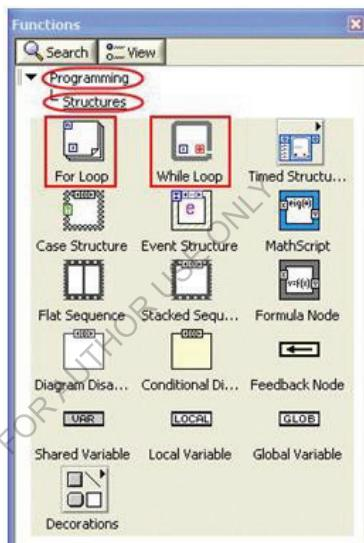

Figure 2.109: Structure List
**While Loop** and **For Loop** are listed from **Function Palette >> Programming >> Structures**, as shown in figure 2.109.